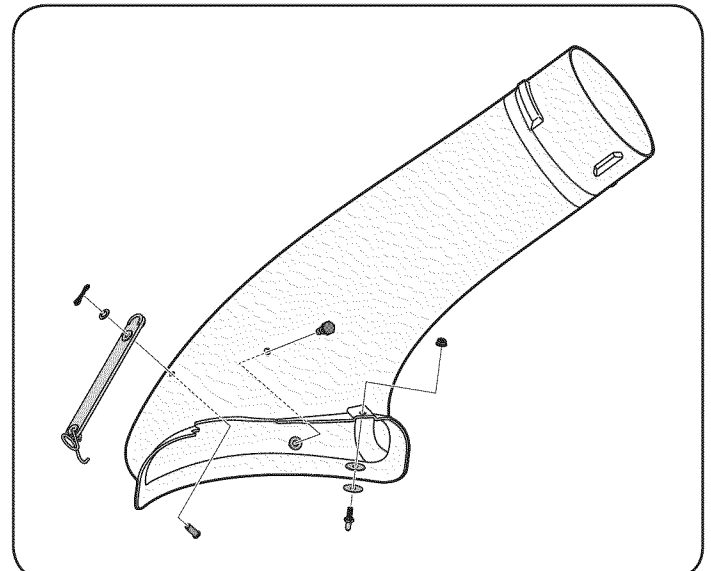

Figure 21
9. Install one of the rubber chute straps (723-04008A) onto the discharge chute elbow using one of the supplied clevis pins (711-05063), washer (736-0204) and Bow-tie cotter pins (710-04040) from hardware pack 689-00092B. See Fig. 21. Secure the end of the strap utilizing the hole furthest from the end, and insert the torsion spring hook (732-04510A) from the same hardware pack into the other end of the rubber strap.
10. Install the deck mounting pin (711-05049) and two flat washers (736-0176), from hardware pack 689-00092B, up into the chute elbow and secure with a flange lock nut (712-3027), as seen in Fig. 21.
11. Install the shoulder bolt (738-0754) into the chute elbow from the top side and secure inside the chute elbow using a flange lock nut (712-04063) from the same hardware pack (689-00092B). See Fig. 21.